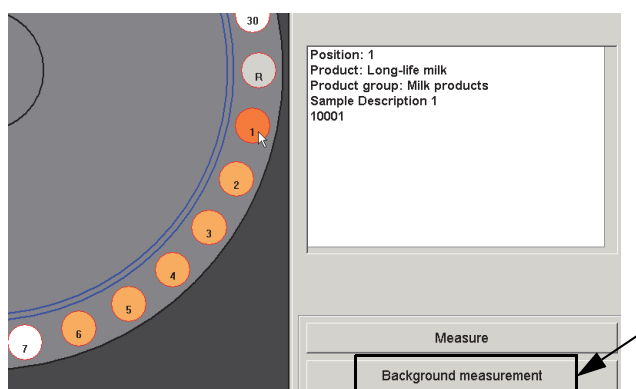

Figure 63: Sample changer - Occupied position 1
- 9) Click the *Background measurement* button (figure 63).